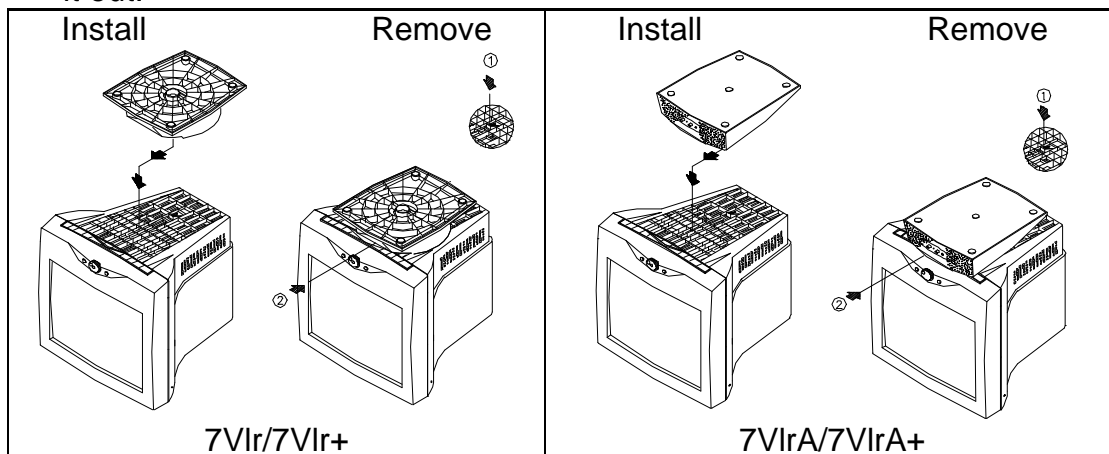

Figure 1 Installing and Removing the Swivel Base
- Carefully turn the monitor on its side or upside down. ( see figure 1 )